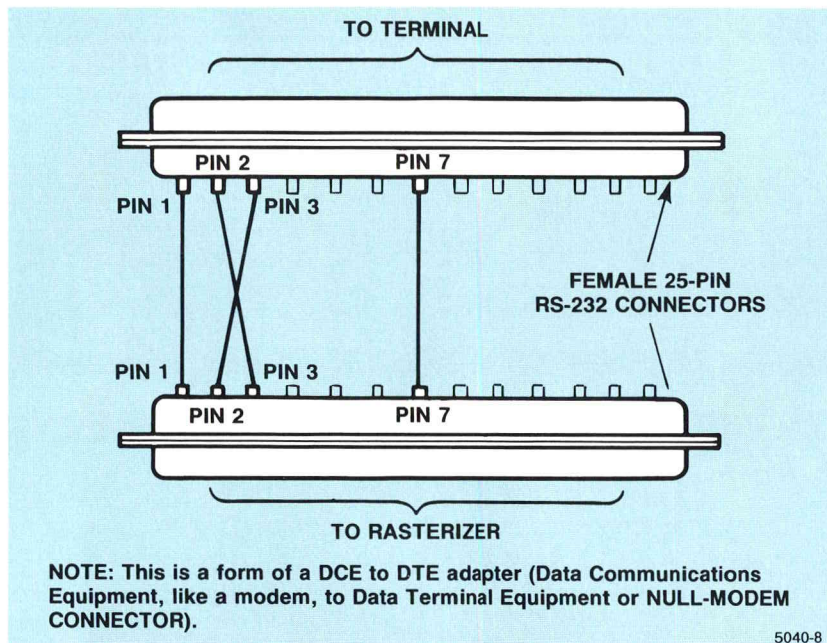

Figure B-5. RS-232-C Adapter to Connect a Terminal to the Rasterizer.
3. Plug the loose male end of the interface port cable (step 2) into the RS-232 receptacle of a modem or host. A terminal connection may require a null-modem (see Figure B-5).